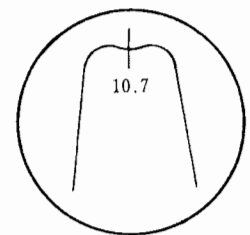

Fig. 6
(2) First IF Amplifier
- Set the frequency of the sweep generator to 10.7 MHz, and apply output from the generator. Adjust T_{101} until the scope pattern illustrated in Figure 6 is obtained.
(3) S-Meter Sensitivity